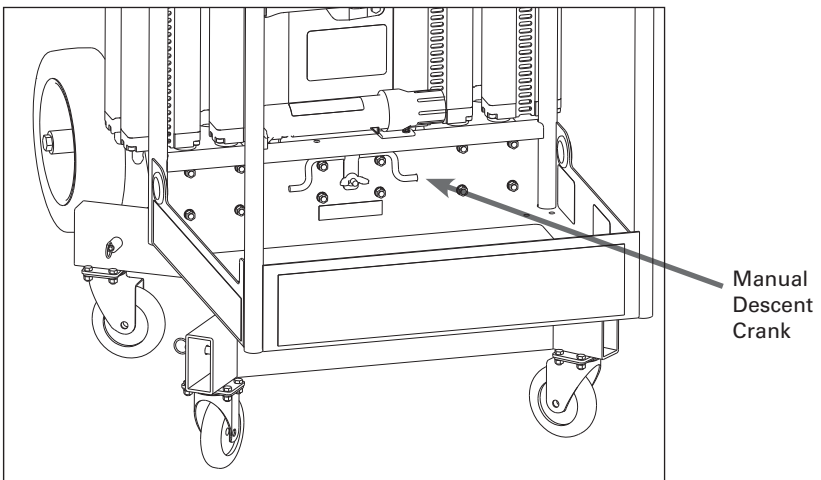

Figure 2-5 - Location of Manual Decent Crank
8. **Manual Decent Crank** - Check to be sure it is present and securely attached (See Figure 2-5)